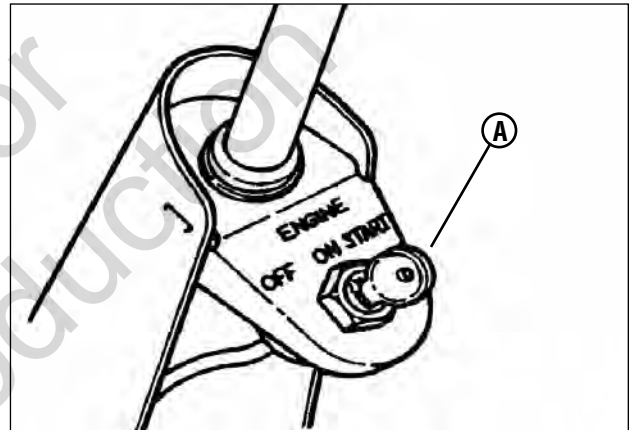

Figure 9: Key
5. Turn the key (A, Figure 9) to the “ON” position.